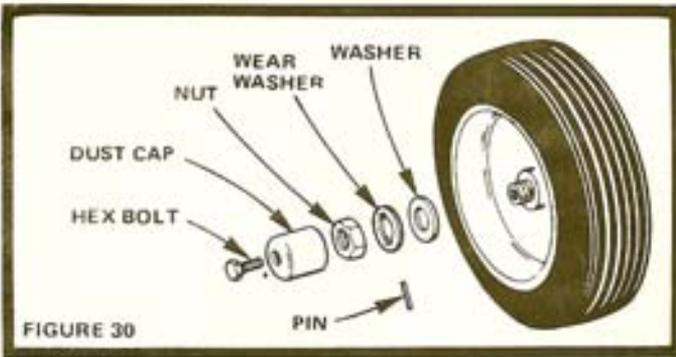

FIGURE 30
- d. Removing front wheel for tire repair (Fig. 30).